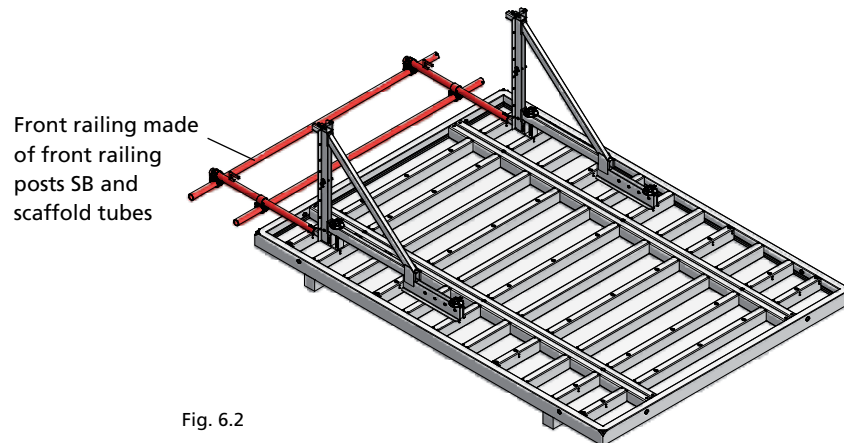

Fig. 6.2
2. Attach the front railing posts SB to the scaffolding brackets SB and assemble the front railing with the scaffold tubes (Fig. 6.2). See p. SB-4 and SB-5 for the scaffold tubes usable for the various formwork widths.